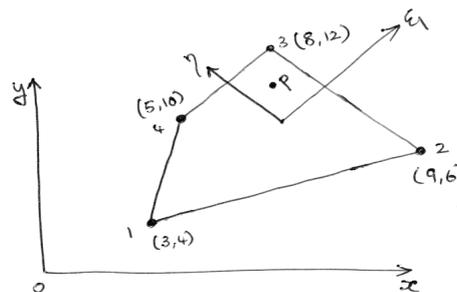

Figure-7
24. a) Evaluate the Cartesian co-ordinate of point p which has local co-ordinate $\xi=0.8$ and $\eta=0.6$ as shown in figure-7.